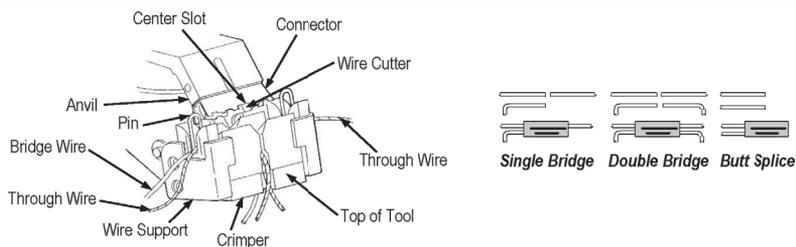

Figure 5
### 5.3. Bridging Connectors (See Figure 5)
4. Insert a connector into the tool as shown in Figure 5. Make sure the wire cutter enters the slots in the center of the connector.